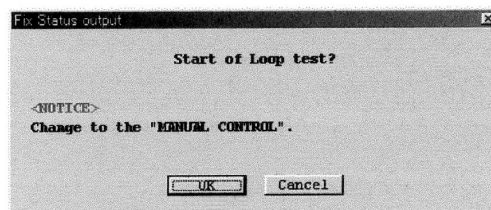

Fig.89
- ③ A message box as shown in Fig. 89 appears. If you want to use a simulated output for the status output, click on "OK." To abort the process, click on "Cancel".